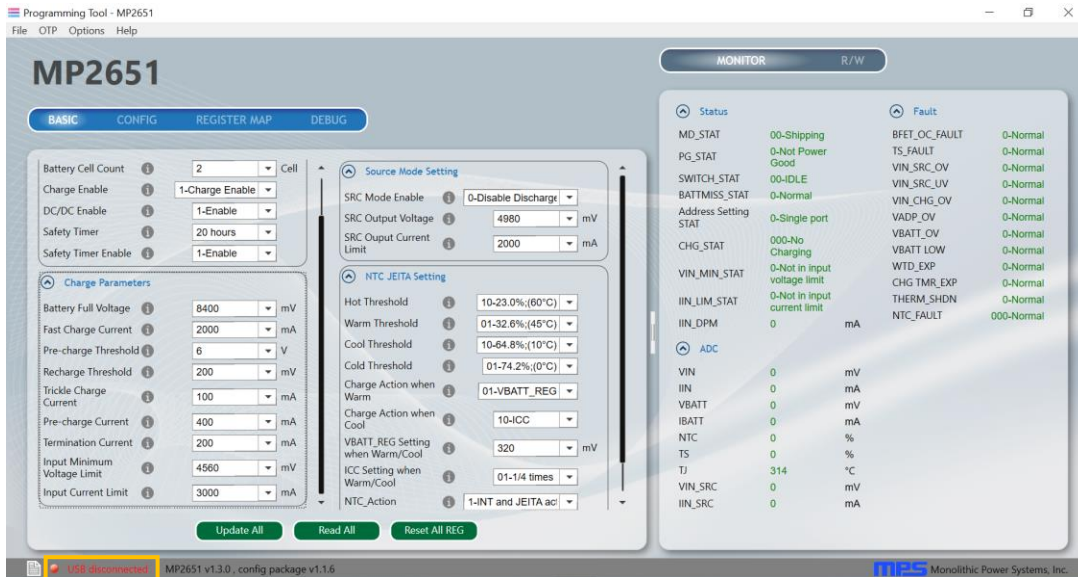

Figure 9: Warning Indicates Unsuccessful Connection (USB-to-I²C Communication Interface is Not Connected)
- If the application shows “USB disconnected,” this means that the USB-to-I²C communication interface is not connected correctly (see Figure 9 on page 11).